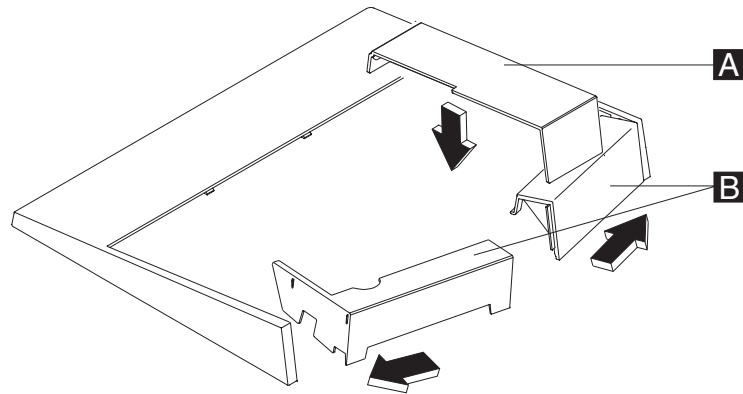

Figure 63. Connecting filler panels
4. The installation of the filler panels is done after all the cables have been routed to your system. To install the integration tray filler panels, see Figure 63 on page 87. Note that filler panel **A** locks filler panels **B** onto the tray. The installation of the filler panels is done after all the cables have been routed to your system.